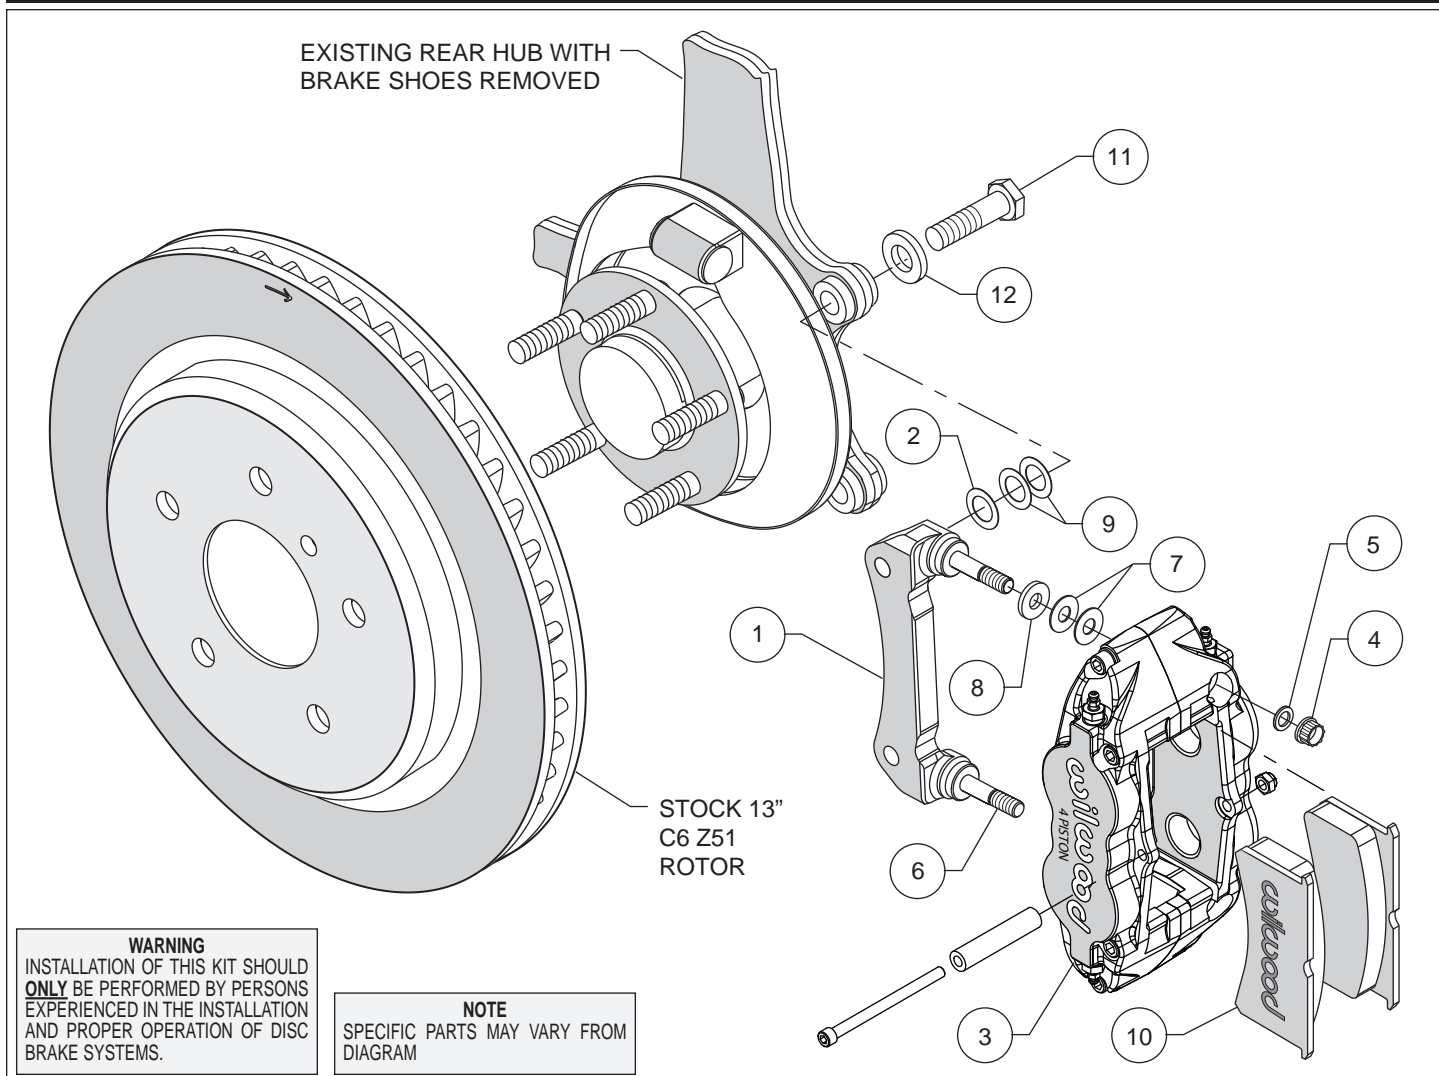

Figure 1. Typical Installation Configuration
Assembly Instructions (numbers in parenthesis refer to the part lists and Figure 1 on the preceding pages):
- The caliper mount bracket (1) should initially be installed with clean, dry threads on the mounting bolts. Orient the bracket, as shown in Figure 1 and install using bolts (11) and washers (12). Initially place two .029" thick shims (9) and one .015" thick shim (2) on each bolt between the bracket and upright, Figure 1. Temporarily tighten the mounting bolts. **NOTE:** *The bracket must fit squarely against the mount bosses on the upright.* Inspect for interference from casting irregularities, machining ridges, burrs, etc. Later, after the caliper alignment has been checked, the mount bolts will be secured using red *Loctite*® 271.
- Lubricate the caliper mounting studs (6) with lightweight oil. Initially place two .035" thick shims (7) and one .062 thick spacer (8) on each stud as shown in Figure 1 and Photo 1. Mount the caliper (3) onto the bracket (1) using lock nuts (4) and washers (5), Figure 1. Temporarily tighten the lock nuts and view the rotor through the top opening of the caliper. The rotor should be centered in the caliper, Photo 2. If not, adjust by adding or subtracting shims (2 and/or 9) between the bracket and the mounting bosses. Always use the same amount of shims on each of the two mounting bolts. Once the caliper alignment is correct, remove the bracket mounting bolts (11) one at a time, apply red *Loctite*® 271 to the threads, torque to 77 ft-lb.